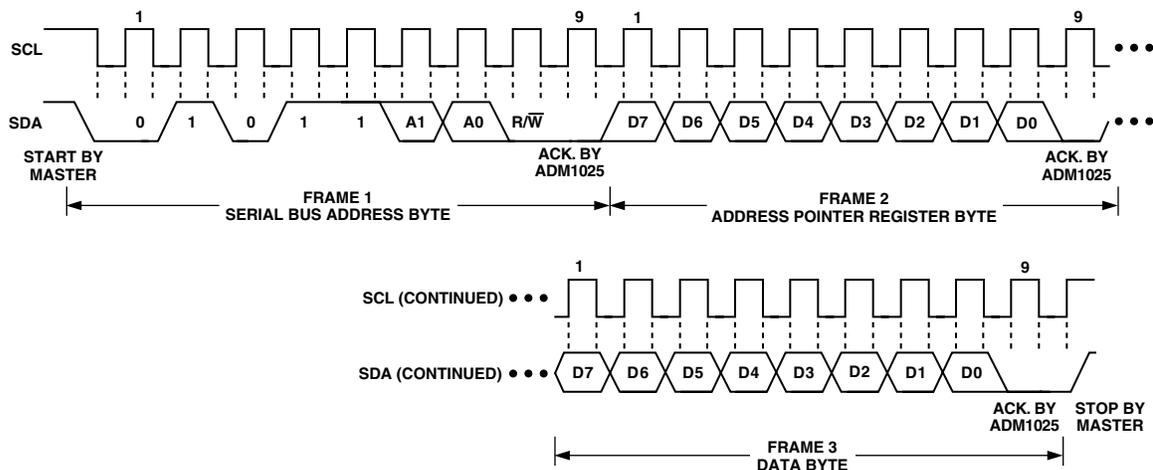

Figure 9a. Writing a Register Address to the Address Pointer Register, then Writing Data to the Selected Register
This is illustrated in Figure 9a. The device address is sent over the bus followed by  $R/\overline{W}$  set to 0. This is followed by two data bytes. The first data byte is the address of the internal data register to be written to, which is stored in the Address Pointer Register. The second data byte is the data to be written to the internal data register.
2. In Figures 9a to 9c, the serial bus address is shown as the default value 01011(A1)(A0), where A1 and A0 are set by the three-state ADD pin.